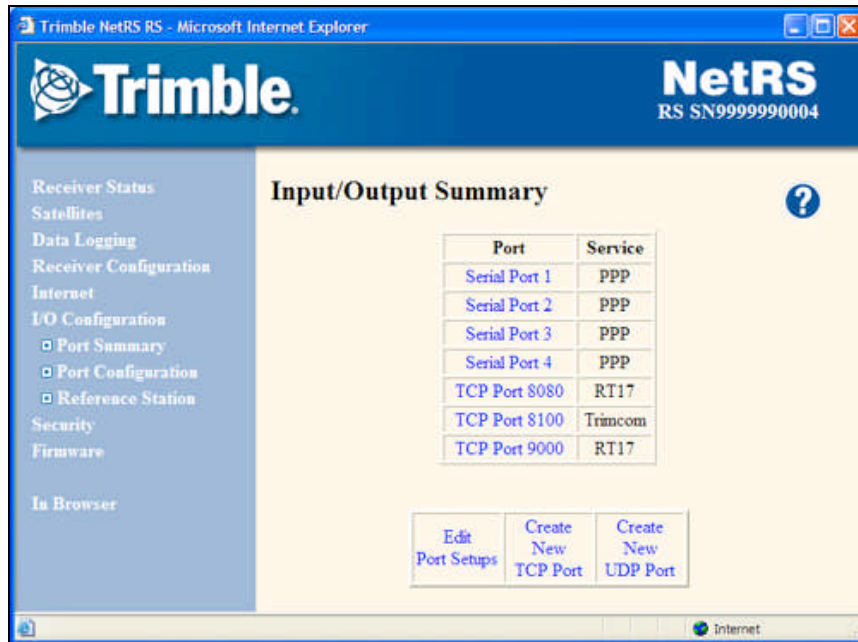

Figure 12. Trimble NetRS Serial Port Configuration
- m. In the GPS receiver home page, click on the **I/O Configuration** menu option to the left of the screen. You will be presented with different port options as in Figure 12. Select the COM port that the MET station is connected to. We will use Port 2 in this technical note.
- p. Click on the OK button. You will see the **Port Configuration** window in Figure 12 again. This time the port you just configured will show “Met-Tilt” across the port number. To start logging data in the GPS receiver, you must enable datalogging. Click on the **Data Logging** menu option. You will see a window similar to the one in Figure 14.